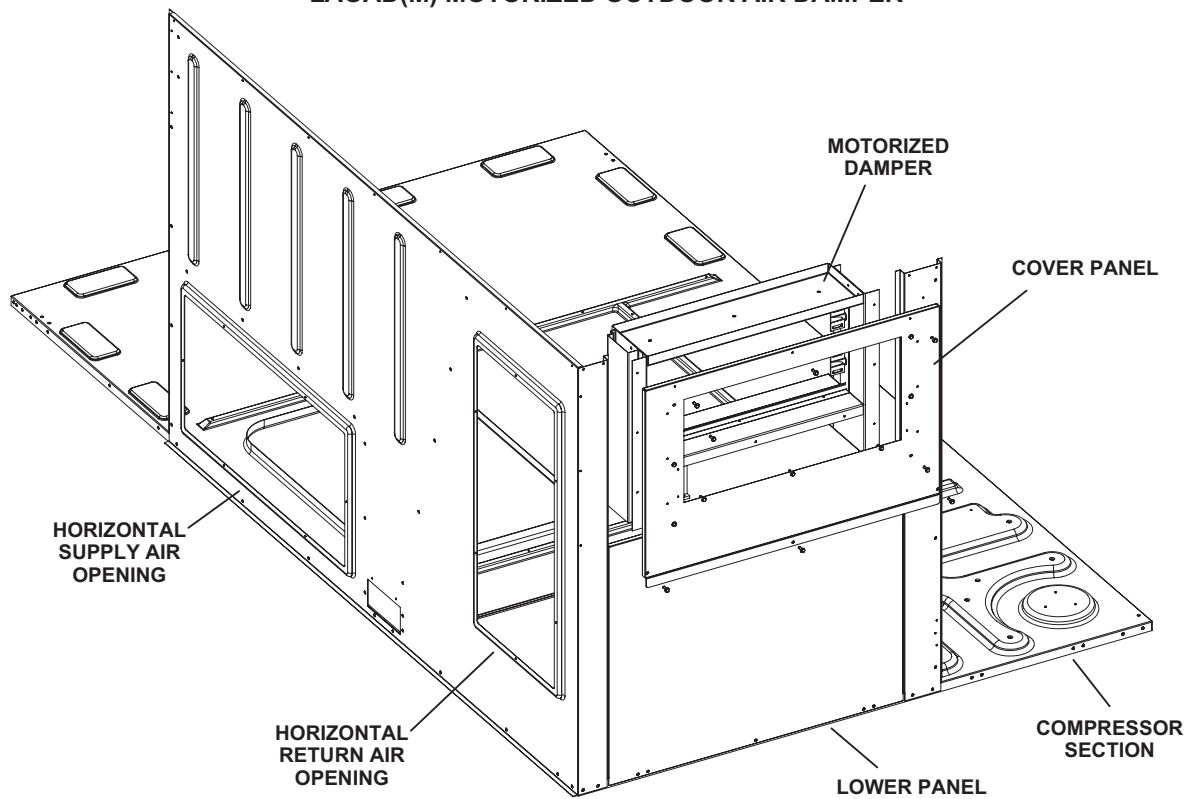
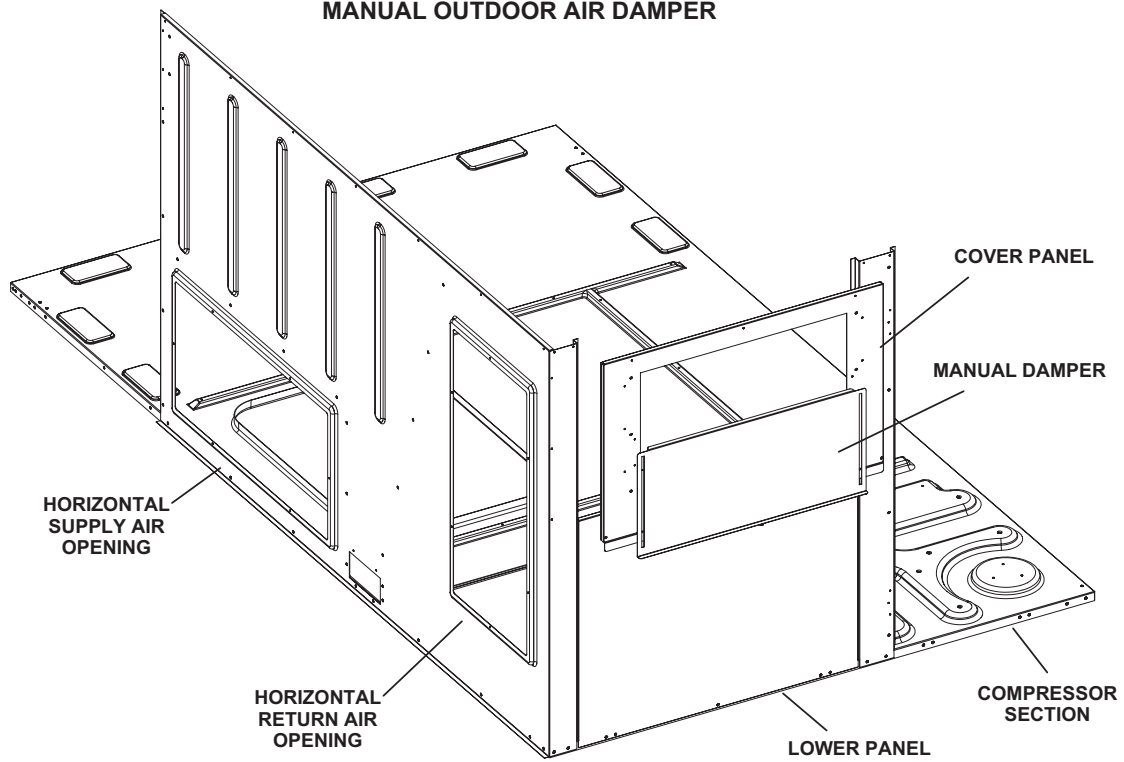

FIGURE 32
FIGURE 33
LAOD(M) consists of a set of dampers which may be manually or motor (M) operated to allow up to 25 percent outside air into the system at all times (see FIGURE 32 or FIGURE 33). Either air damper can be installed in LGM units. Washable filter supplied with the outdoor air dampers can be cleaned with water and a mild detergent. It should be sprayed with Filter Handicoater when dry prior to re-installation.